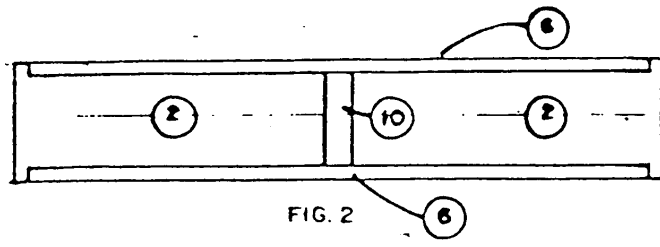

FIG. 2
2. Lay out plywood sheets No. 2 (as shown on Fig. 2). Nail the 2 x 2's No. 6 and the 2 x 4 No. 10 to the plywood sheets No. 2.
6. Connect the top front (Fig. 2) to the two sides and connect the back brace No. 6 to the two sides. Brace the corners as shown in Fig. 4 using braces No. 8.